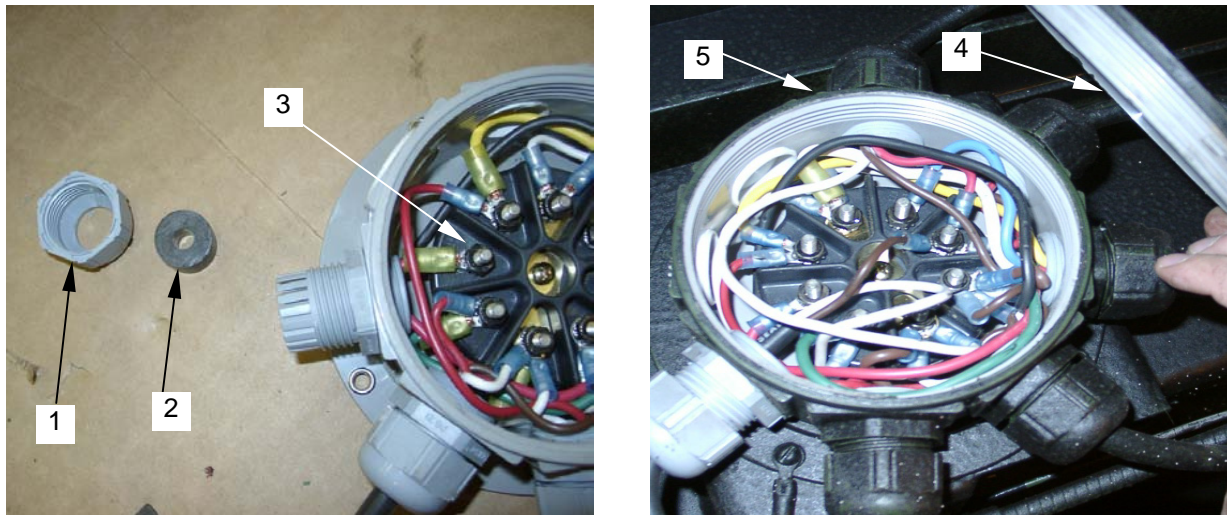

Figure 13. J-Box
15. Feed new wire through strain relief nut (**figure 13, item 1**) and grommet (**figure 13, item 2**) into J-Box.
17. Install ring terminal on connection post (**figure 13, item 3**).
19. Tighten strain relief nut (**figure 13, item 1**).
20. Install cover (**figure 13, item 4**) on J-Box (**figure 13, item 5**).